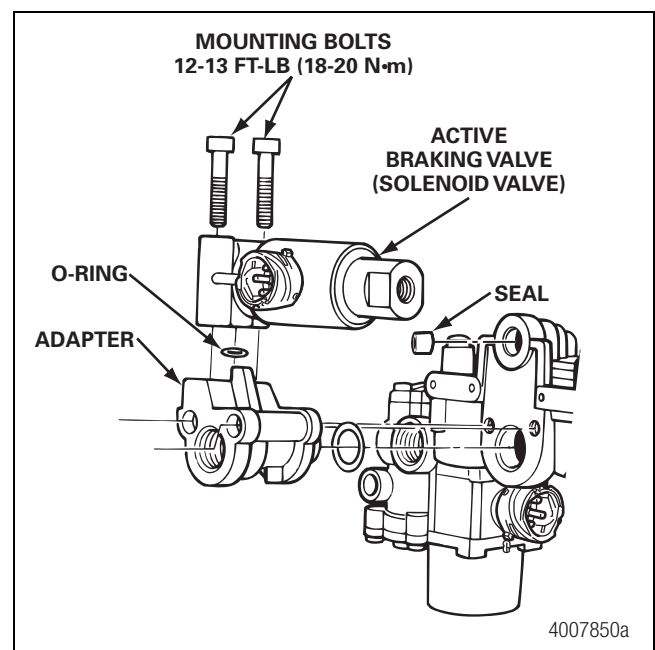

Figure 4.10
2. Use the two new M8 Allen-head bolts to attach the solenoid valve to the adapter piece. Use a 6 mm Allen-head tool to tighten to 13-15 lb-ft (18-20 N•m). Figure 4.10.